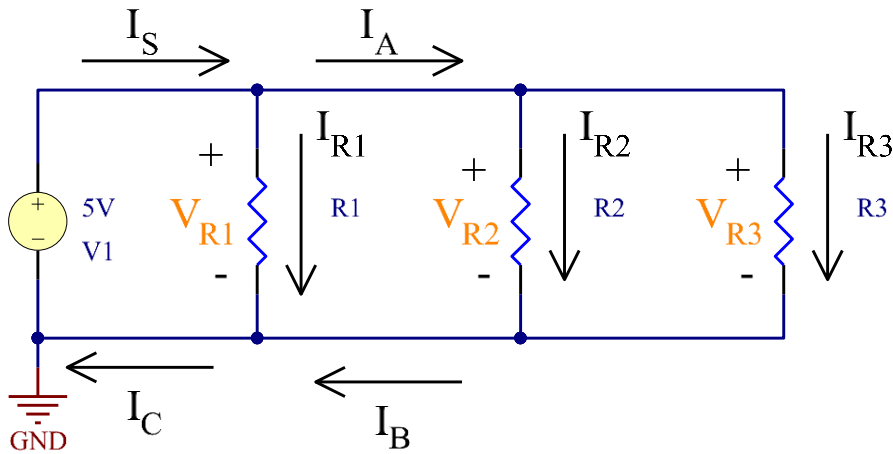
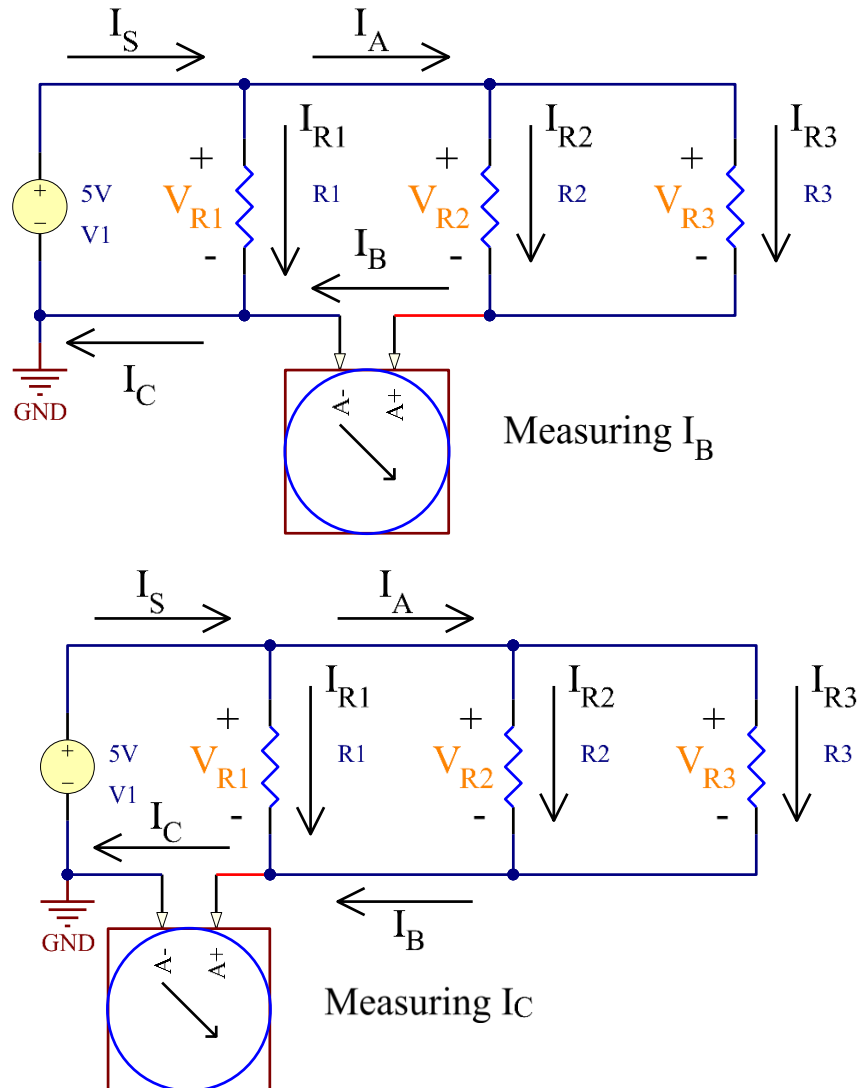

Figure 6: Parallel circuit schematic and breadboard example.
Figure 8: Current meter connection guide.
11. Next we investigate a parallel circuit. Build the circuit in Fig. 6, using $V1 = 5\text{V}$, R_1 , R_2 and R_3 from the series circuit in Figure 4.
12. Copy the measured values of your resistors to Table 5, and then measure the voltage across and current through each resistor as labeled in Fig. 6 Use the DMM to measure voltage. Don't measure I_S , I_A , I_B or I_C yet. Look at figure 6 to see an easy way to measure the R_1 , R_2 and R_3 currents.
Table 6: calculations and errors from Fig. 6
14. Measure the currents labeled I_S , I_A , I_B , and I_C in Fig. 6 using the DMM. This procedure is similar to the one you followed in step 1 of this lab. Figure 8 illustrates how DMM can be connected to measure each current value:
3. Verify Kirchhoff's Current Law at the voltage source V1 node in Fig. 6. Remember the node includes all of the lines (wires). Do this by plugging the correct numbers into Eqs. 15 or 16 (Theory Document). Only use the currents through the resistors and source. The other currents were measured to demonstrate what happens to the currents in the various loops.
4. Fill in table 7 with sums of currents from the schematic in Fig. 6 that equal the current in the left column.